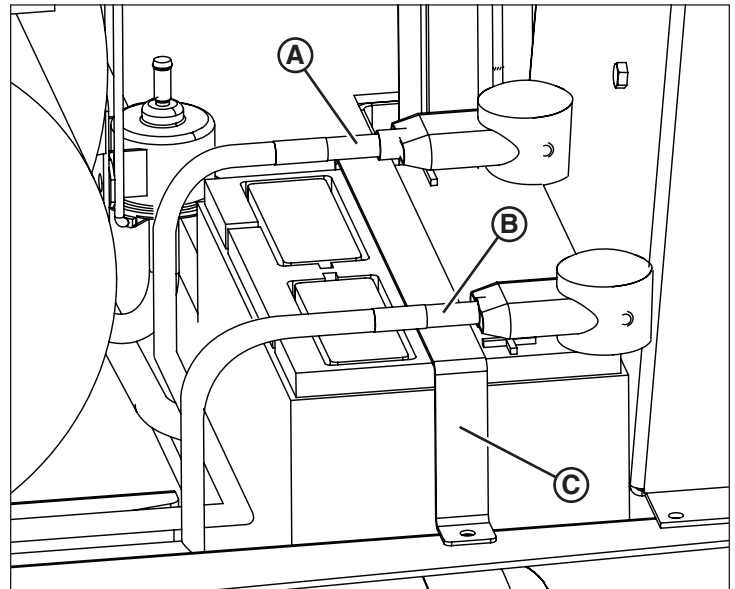

Figure 23
2. Disconnect the black negative (-) cable (**A**, Figure 23) from the negative (-) battery terminal, and secure away from the battery.
3. Disconnect the red positive (+) battery cable (**B**, Figure 23) from the positive (+) battery terminal, and secure away from the battery.
4. Loosen the hardware securing the battery hold-down (**C**, Figure 23), and remove the hold-down.